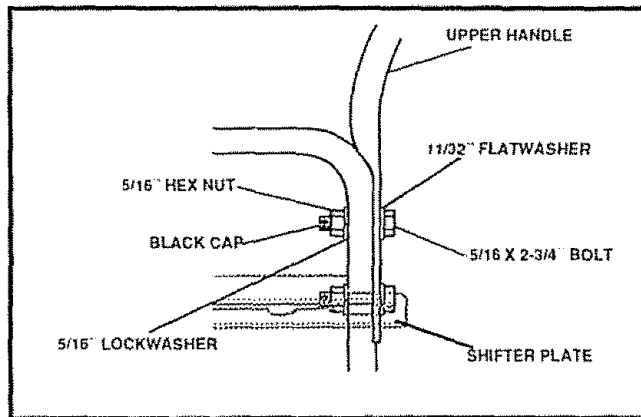

FIG. 4A
- Tighten the screw, flatwasher, lockwasher and hex nut at the lower right hand hole (See Fig 4A)